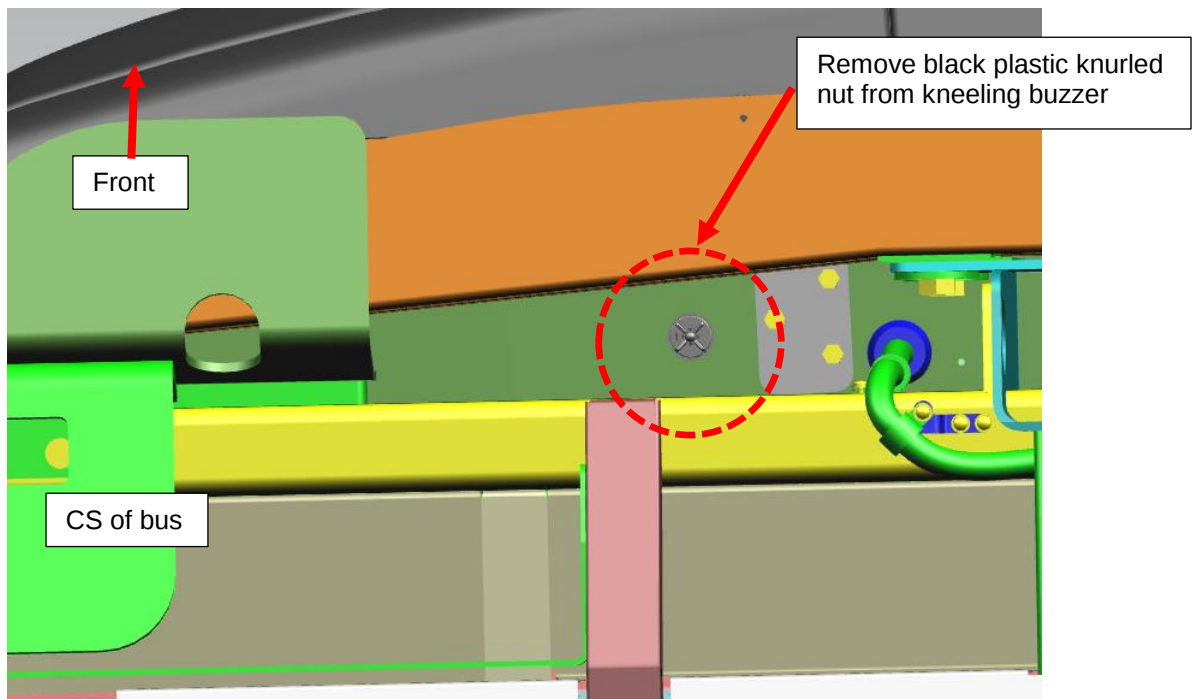

Figure 1 – View below the CS section of the front mask – Remove kneeling buzzer nut
3. Move below the bus and locate the Kneeling Buzzer below the CS section of the front mask. Remove the black plastic knurled nut. Refer to Figure 1.